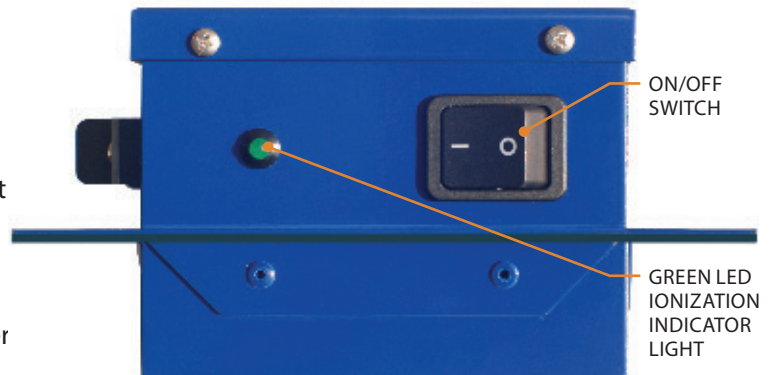

FIGURE 3 – Right view of ionizer
1. When power is supplied to the ionizer and the switch is in the "on" position, the ionizer will be activated and will illuminate the green ion indicator light. (See figure 3)